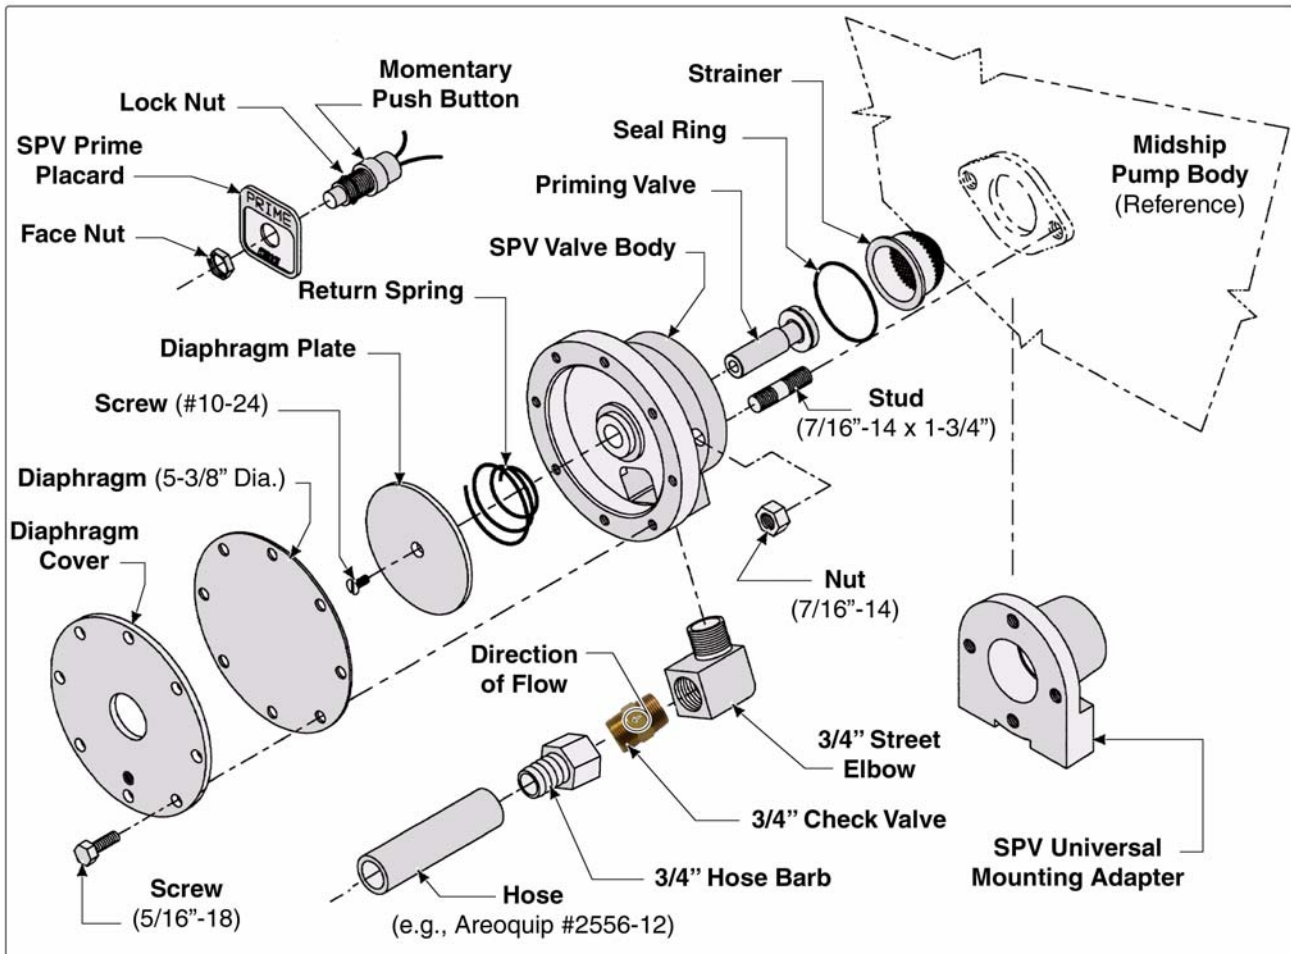

Figure 5-3: Hale SPV Parts Overview
The Hale SPV is designed to provide trouble free service with a minimum of preventive maintenance. Performance degradation can result from a ruptured diaphragm or worn seat on the valve. A Hale SPV repair kit that contains a manual, seal ring, valve and diaphragm is available from Hale Products, Inc. Order Hale repair kit, p/n: 546-1680-00-0. Also see Figure 5-3: “Hale SPV Parts Overview” on page 40.
6. Carefully pry the cover and diaphragm from the valve body being careful to not damage the diaphragm. Separate the cover and diaphragm. (See Figure 5-3: "Hale SPV Parts Overview.")